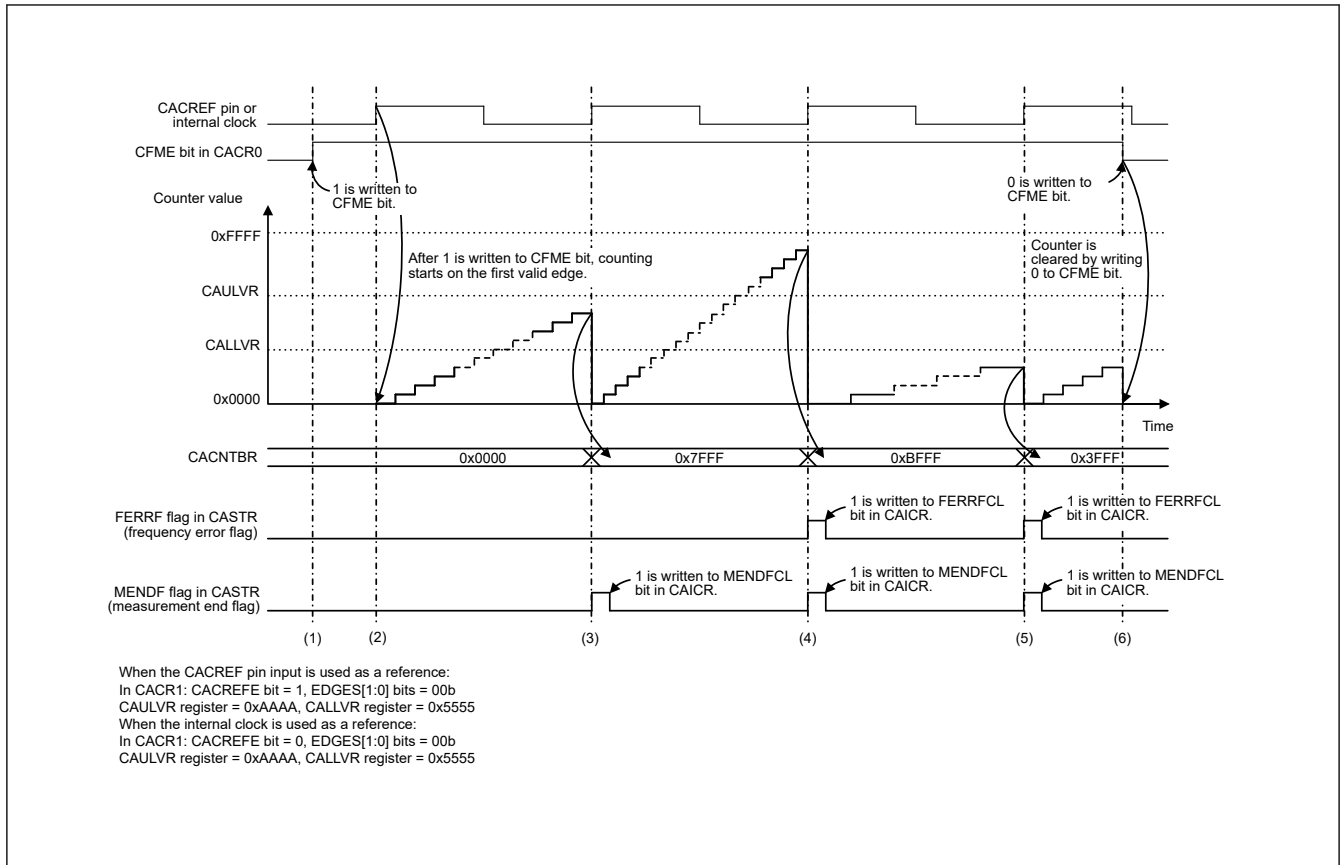

Figure 9.2 CAC operating example
The CAC measures the clock frequency using the CACREF pin input or an internal clock as a reference. Figure 9.2 shows an operating example of the CAC.
The events in Figure 9.2 are:
2. When the CACREF pin input is used as reference, after 1 is written to the CFME bit, the timer starts up-counting if the valid edge selected by the CACR1.EDGES[1:0] bits (rising edge (CACR1.EDGES[1:0] = 00b) in Figure 9.2) is input from the CACREF pin. When the internal clock is used as reference, after 1 is written to the CFME bit, the timer starts up-counting if the valid edge selected by the CACR1.EDGES[1:0] bits (rising edge (CACR1.EDGES[1:0] = 00b) in Figure 9.2) is input based on the clock source selected by the CACR2.RSCS[2:0] bits.